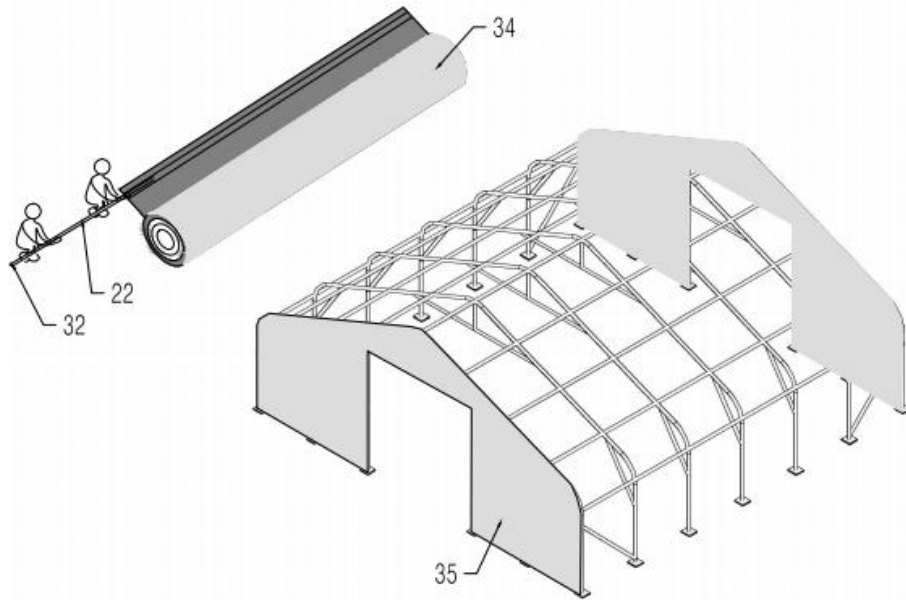

Figure 8
1. As **Figure 8** shown, Put Base tensioning tube(No.22) in on 1 side only. you throw the ropes over the frame and use the (No. 17)pipe in every pouch to fix the rope. Then you drag the roof including all pipes (No.17) on another side over the frame.